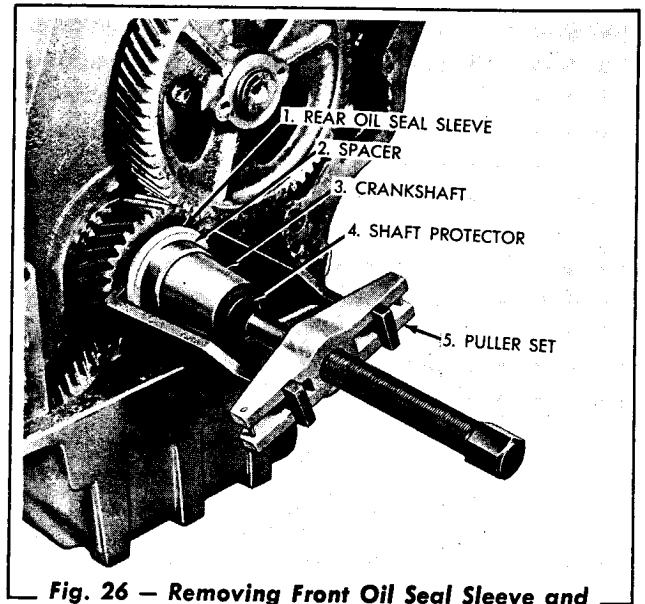

Fig. 26 — Removing Front Oil Seal Sleeve and Sleeve Spacer from Crankshaft
- h. Using puller tools similar to the ones shown in Fig. 26, remove the rear oil seal sleeve and sleeve spacer from the crankshaft.